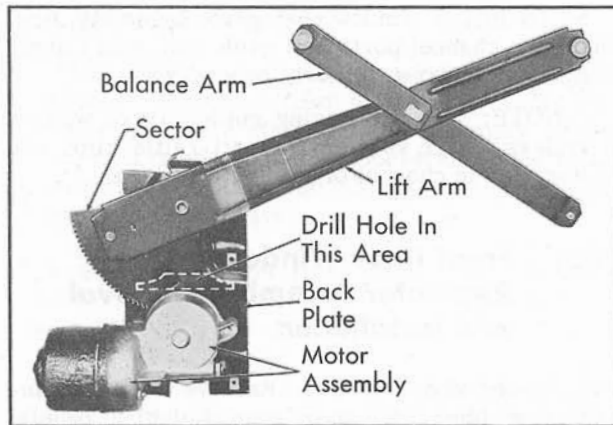

Fig. 17-33 Front Door Window Regulator
2. Drill a 1/4" hole through back plate and sector within area indicated by dotted line in Fig. 17-33. Location of hole depends on position of lift arm.